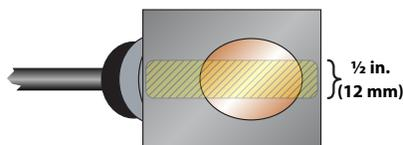

Figure 4: Transducer bottom view
4. Apply contact gel to the underside of the transducers. Place a single bead of couplant, approximately 1/2 inch (12 mm) thick, on the flat face of the transducers. See Figure 4. Generally, a silicone-based grease is used as an acoustic couplant, but any good quality grease-like substance that is rated to not flow at the operating temperature of the pipe is acceptable. For pipe surface temperature over 130° F (55° C), use high-temperature paste (P.N. D002-2011-012) or non-silicone paste (P.N. D002-2011-009).